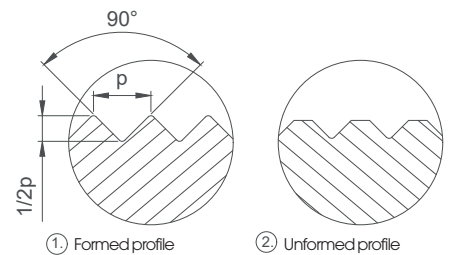

Fig. 4: Different profile pattern
The profile is completely knurled when the tooth tips are closed (Fig. 4, ref. 1). If the profile is not completely knurled (Fig. 4, ref. 2), reduce the working area and run over the component again. Running into the workpiece again is possible, because the knurling wheels catch in the existing profile.